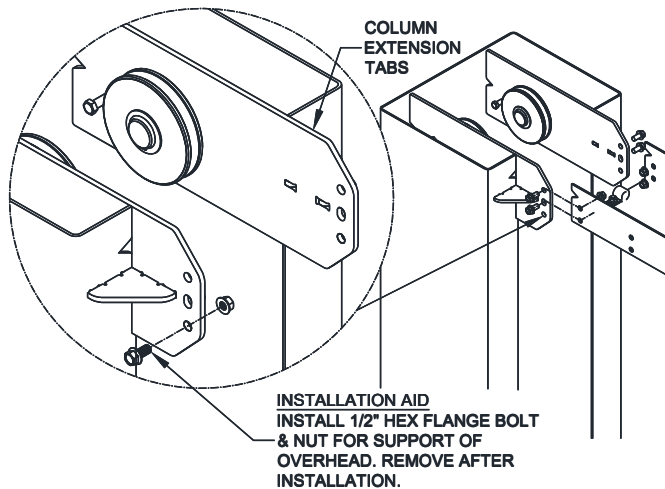

**Fig. 5 – Column Shimming**
**Complete steps 15 thru 17 for the seven (7) exposed anchors (one at a time) around each column.**
- 20) Repeat steps 15 thru 17 for the two (2) anchors under each carriage.
- 21) Shim both columns to plumb using the shims provided as shown in **Fig. 5**. DO NOT shim more than 1/2" at any given point. Use a level no less than 24" in length to plumb columns.
- 26) Check idler column shimming. Use additional shims (*see Fig. 5*) to remove any gaps that may have been created while installing overhead beam. Tighten anchor bolts and re-check column for plumb. Torque to 150 foot-pounds.